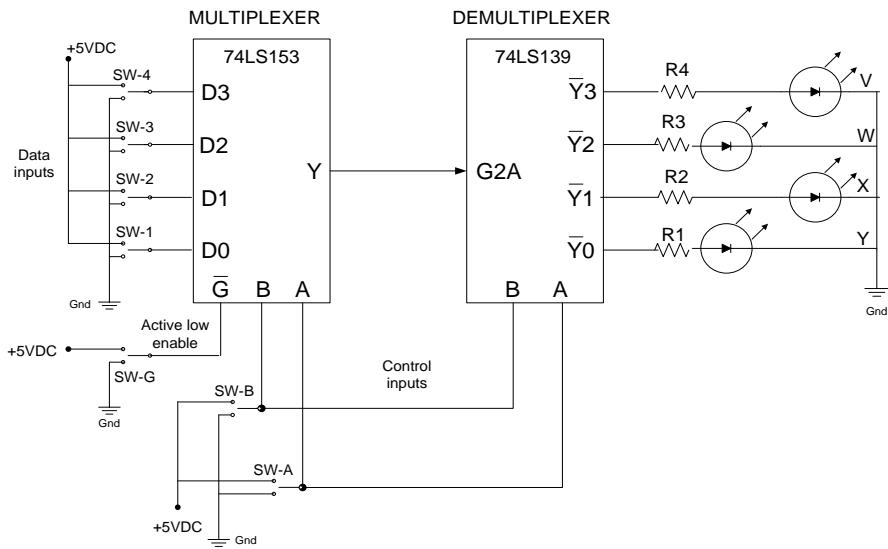

Figure 11: Simplified Multiplexer/Demultiplexer Circuits using 74LS153/74LS139
1. Assemble the circuit as shown in the circuit diagram Figure 11.